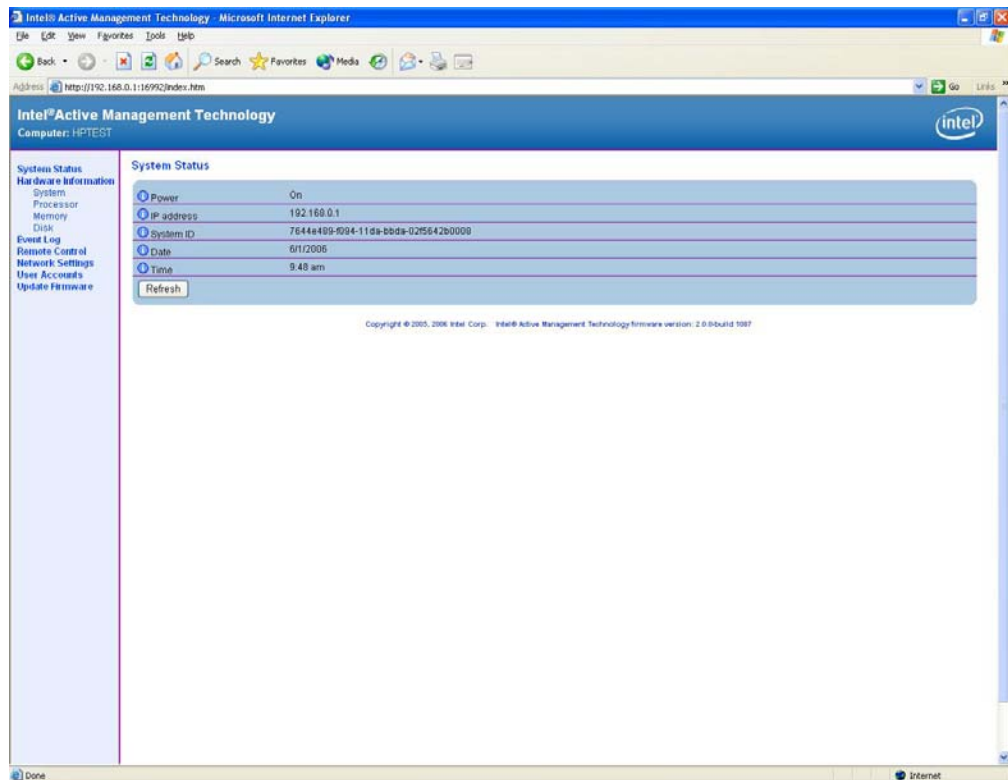

Figure 24. Intel AMT WEB GUI Screen
5. Enter username and password. The default username is “admin” and the password is the one set during AMT Setup in the MEBx. After login, the System Status screen appears (Figure 24).